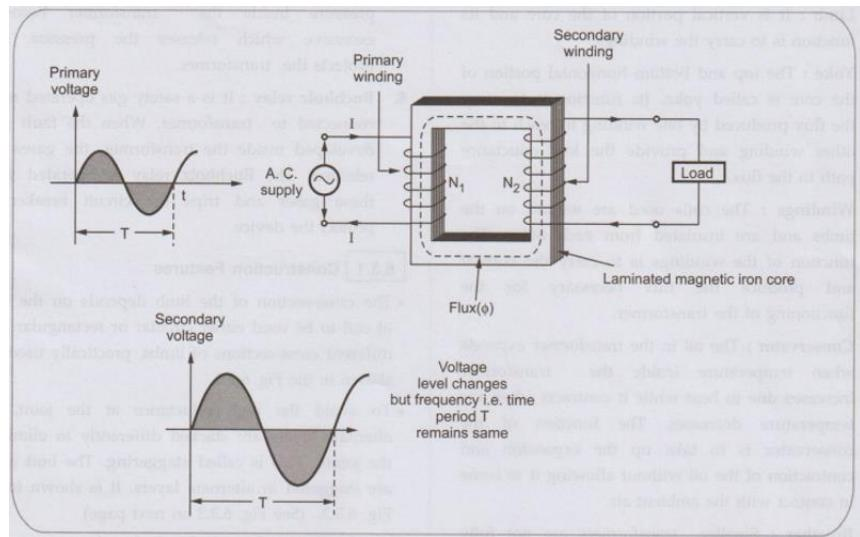

Figure 2.25: Basic transformer
When primary winding is excited by an alternating voltage, it circulates an alternating current. This current produces an alternating flux (ϕ) which completes its path through common magnetic core as shown dotted in the Fig. 2.25. Thus an alternating, flux links with the secondary winding. As the flux is alternating, according to Faraday's law of an electromagnetic induction, mutually induced e.m.f. gets developed in the secondary winding. If now load is connected to the secondary winding, this e.m.f. drives a current through it.
1. **Core:** It is made up of high grade silicon steel laminations. Its function is to carry the flux, providing low reluctance to it. Generally 'L' es shaped or 'I' shaped laminations are used as shown in the Fig. 2.25